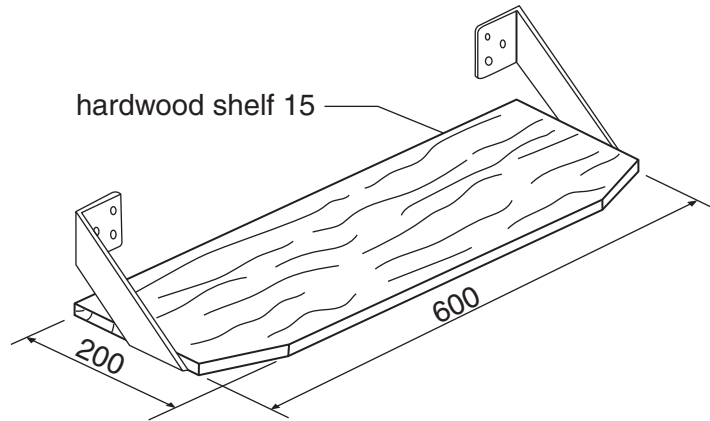

Fig. 13
- (f) The games controller holder is to be stored on a wall mounted stand shown in Fig. 13.